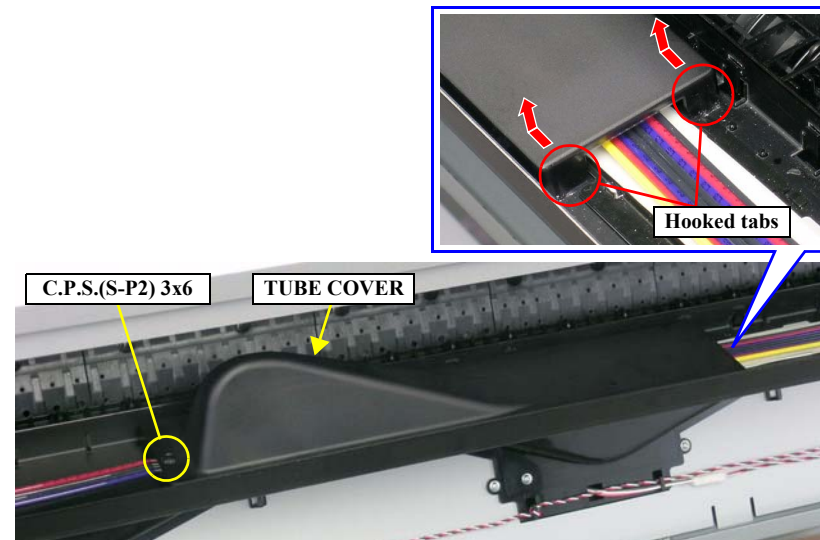

Figure 4-74. Removing the TUBE COVER
3. Remove the screw that secures the TUBE COVER. *See Figure 4-74.*
4. Slide the TUBE COVER leftward to release it from the two hooked tabs, and remove the TUBE COVER. *See Figure 4-74.*